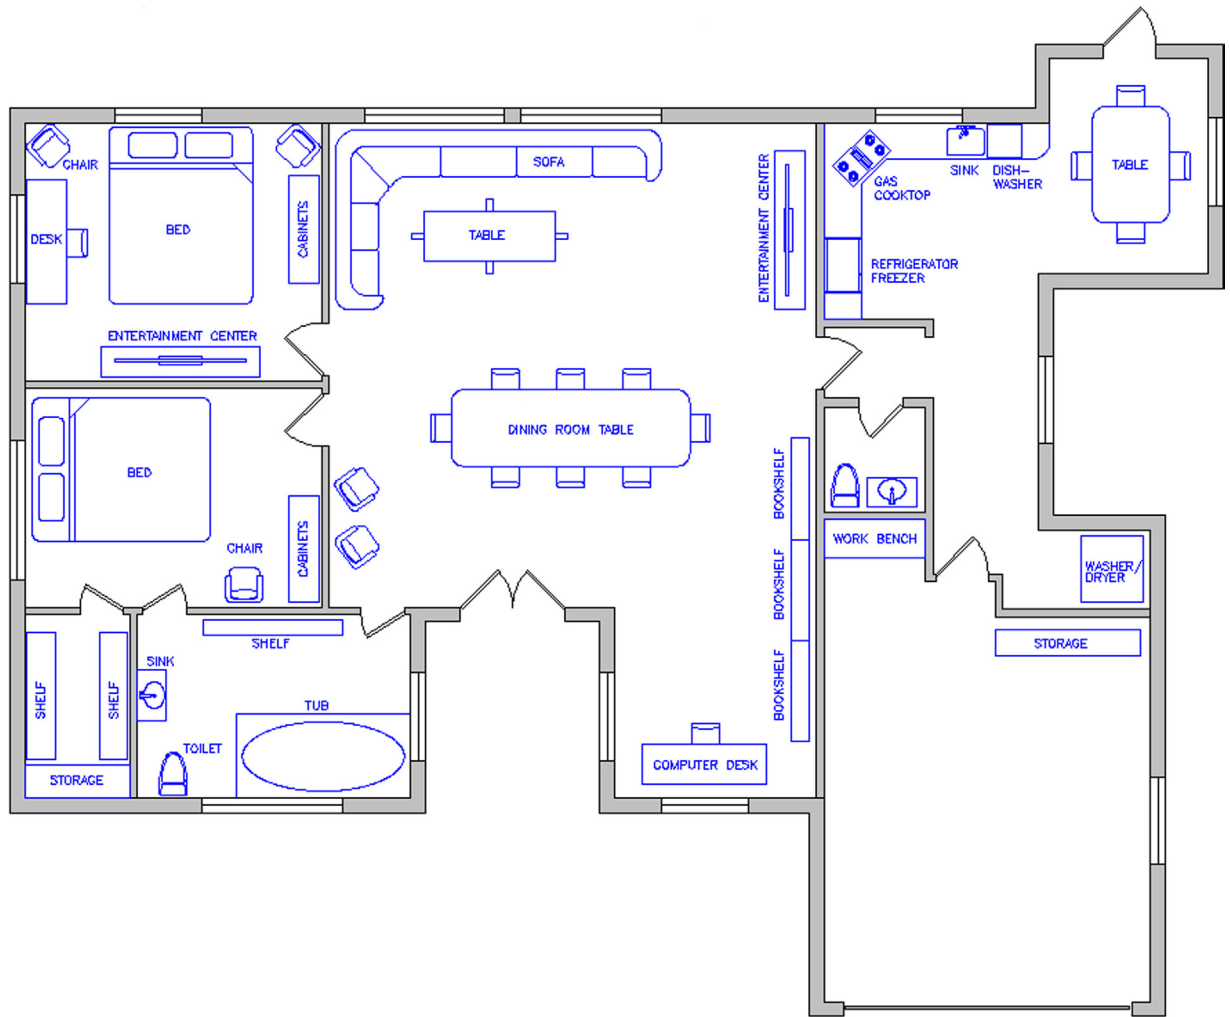

FIGURE 13.24
Step 2. Dimensions for the furniture and appliances are not specifically given, but draw in reasonable-size designs, as seen in the layout. Feel free to add more than is shown. The full plan is in Figure 13.24. Your drawing features the colors listed in Step 1.